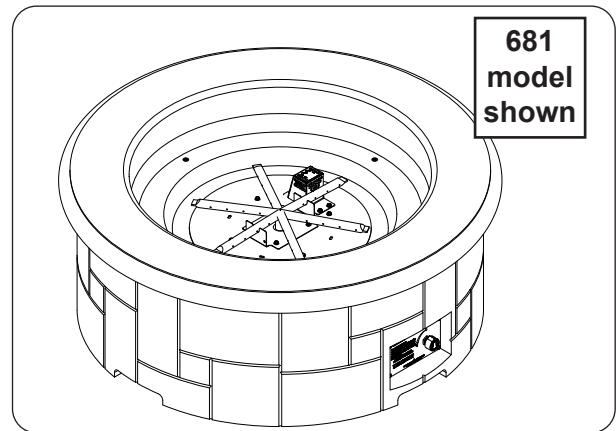

Fig. 30-1 Place unit
1. **CAREFULLY** place unit in an appropriate location (see Fig. 30-1, and refer back to the LOCATION section if needed).